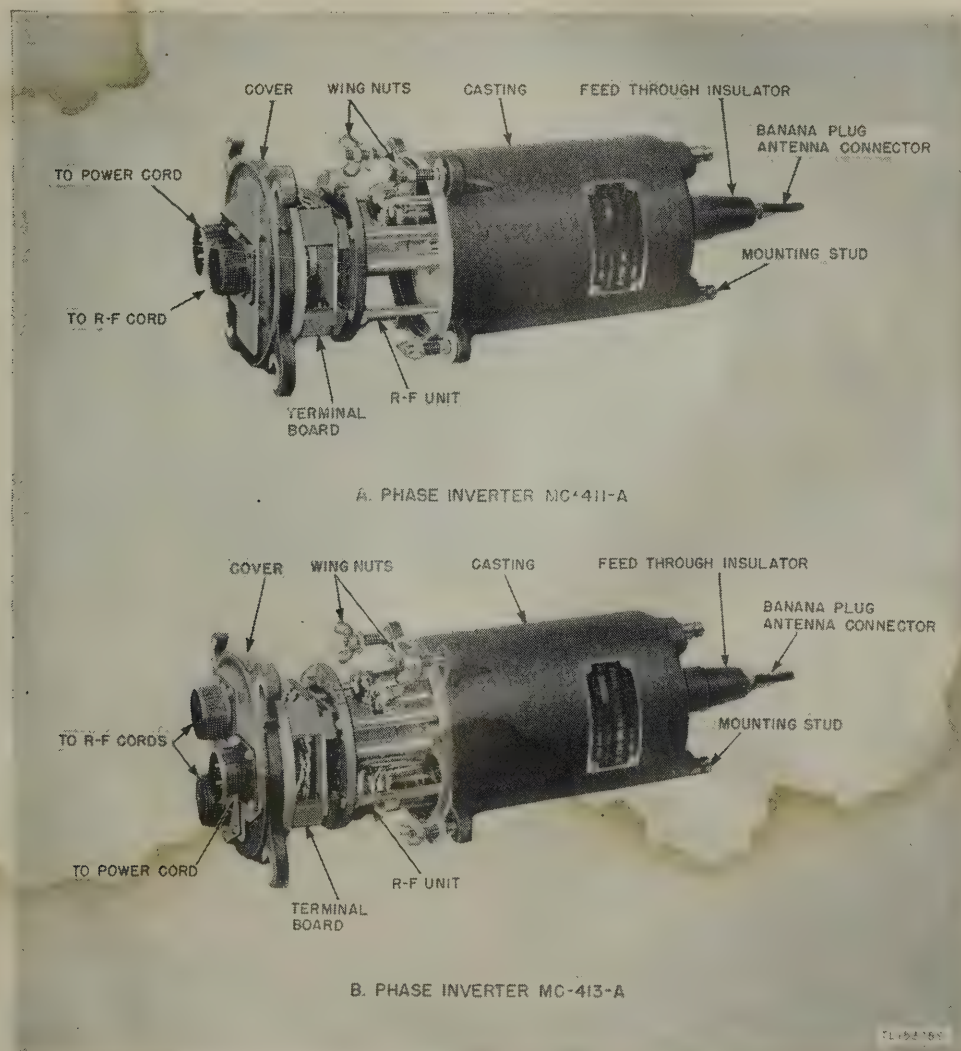

Figure 5. Phase Inverters MC-411-A and MC-413-A.
c. PHASE INVERTERS MC-411-A AND MC-413-A. (fig. 5). Phase Inverters MC-411-A and MC-413-A are antenna coupling units. Phase Inverters MC-411-A are used with the D/F (corner) antennas, and Phase Inverter MC-413-A is used with the sense antenna. Externally, the phase inverters are the same, except that three cable connectors are fitted to the base of Phase Inverter MC-413-A and only two cable connectors are attached to Phase Inverter MC-411-A. The case of each phase inverter is a 7 $\frac{1}{4}$ - by 12 $\frac{3}{4}$ -inch aluminum casting. A plug-in type of r-f unit fits a terminal board on the cover, or base which is clamped to the casting